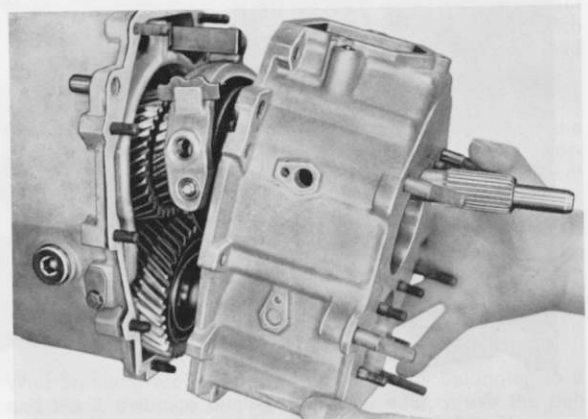

Fig. 51
4. Slide gasket (107) over the protruding studs and install gearbox housing front part (101) (Fig. 51). Screw the nuts (102) with spring washer (103) on the stud. Tap in dowel (106) and then tighten nuts (102) to a torque of 2 to 2,5 kpm.
5. Place O-rings (605) into the pivot pins (604). Insert pivot pins through the housing into the bore of the 4th and 5th gear selector fork. Screw in bolts (602) with spring washer (603) and tighten to 0,8 to 1,2 kpm.